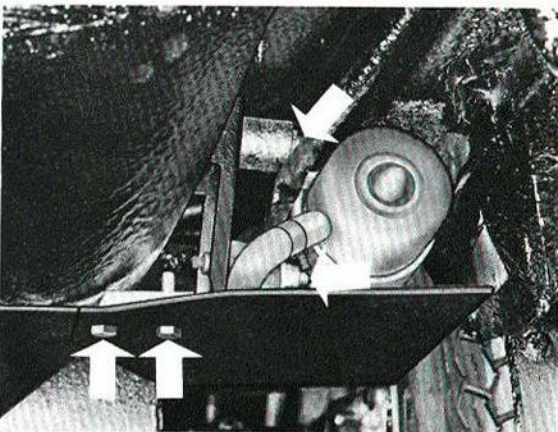

Fig. 2-187. Removing fuel pump
1. Remove the protective casing by unscrewing both the screws, see Fig. 2-187.
3. Pinch the pump hoses with pinchers (2901). Slacken the hose clamps and remove the hoses, Fig. 2-187.